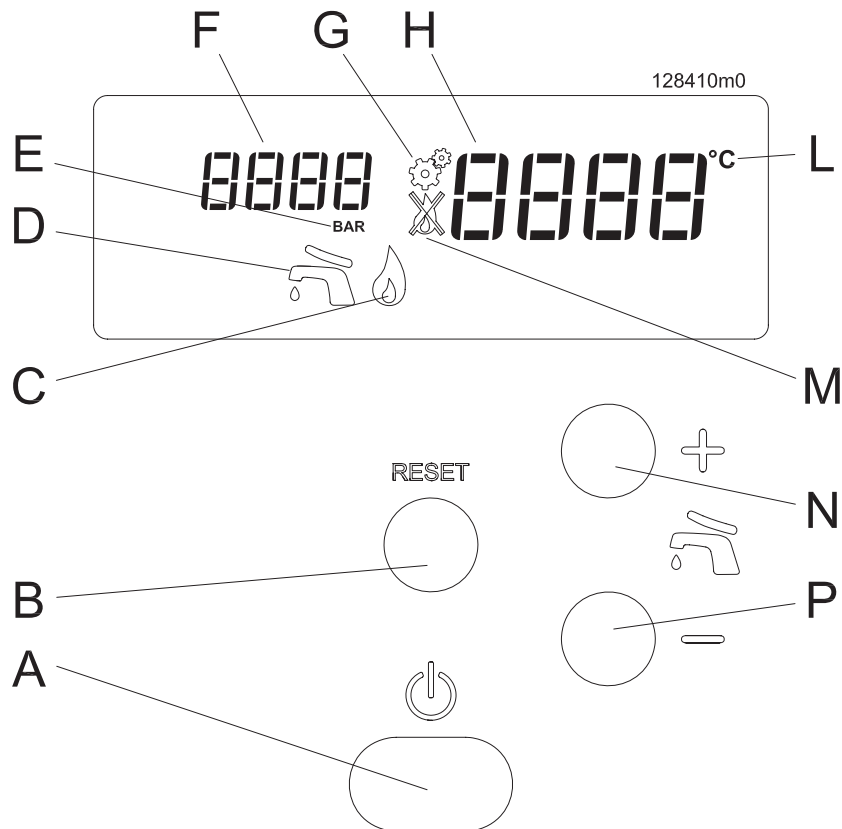

Figure 7.1 - Control board
Key for figure 7.1
Entry into the "User menu" is highlighted by the visual display "F", in figure 7.1, which indicates parameters that can assume
operating on the  and  keys. On pressing one of the two keys, the visual display "H" in figure 7.1 will start to flash and show the temperature that is being set. The range of adjustment for the temperature of the domestic hot water goes from 40°C to 60°C or from 40°C to 70°C if there is a storage tank present.
By holding the  key down also below 40°C, **OFF** will appear to indicate switch-off of the domestic hot water service, also highlighted by switch-off of the icon "D" in figure 7.1.
a.- press the RESET key to access the parameter (the visual display "H" in figure 7.1 will start to flash);